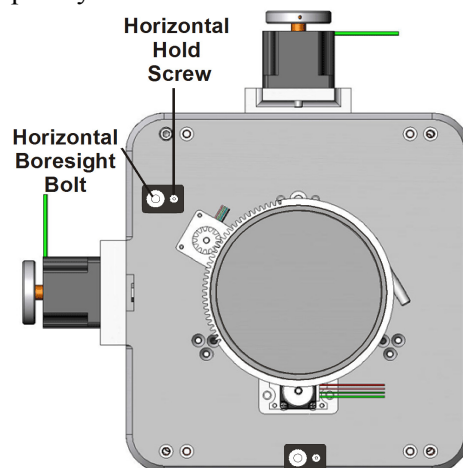
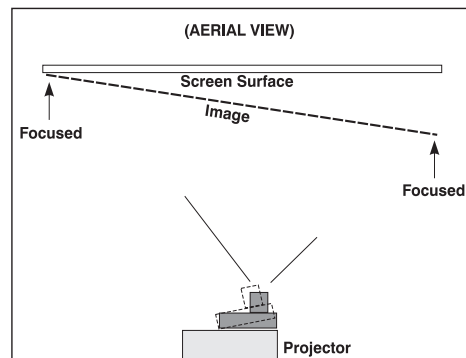

Figure 2-39 Horizontal Boresight
Figure 2-41 Aerial View Illustrating Misaligned Boresight
1. The Horizontal Hold Screw acts as counter-resistance to hold the lens mount in place once set. Before adjusting the boresight, loosen the **Horizontal Hold Screw**. See **Figure 2-39**.
- a. If the right side of the image comes into focus before the lens is completely retracted, then the image focuses in front of the screen. See **Figure 2-41**. To correct this problem, adjust the **Horizontal Bore-sight** bolt to direct or aim the lens mount towards the LEFT to balance out the left/right edges. See **Figure 2-39**.
7. Adjust the **Horizontal Hold Screw** to lock adjustments in place. Check boresight again. See **Figure 2-39**.